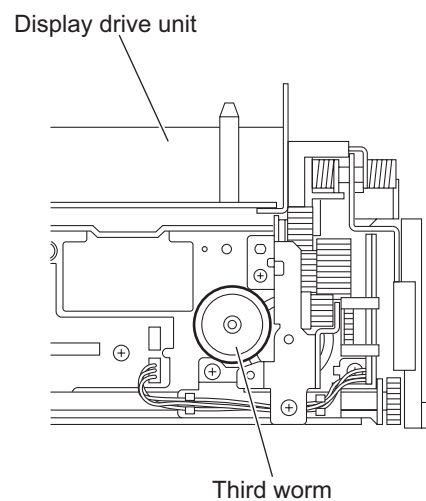

Fig.16
- (7) From the top side of the display drive unit, pull the third worm in an upward direction. (See Fig.16.)